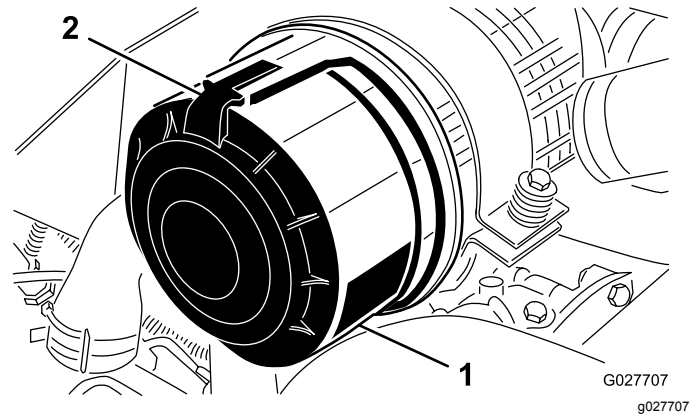

Figure 61
1. Release the latches that secure the air-cleaner cover to the air-cleaner body (Figure 61).